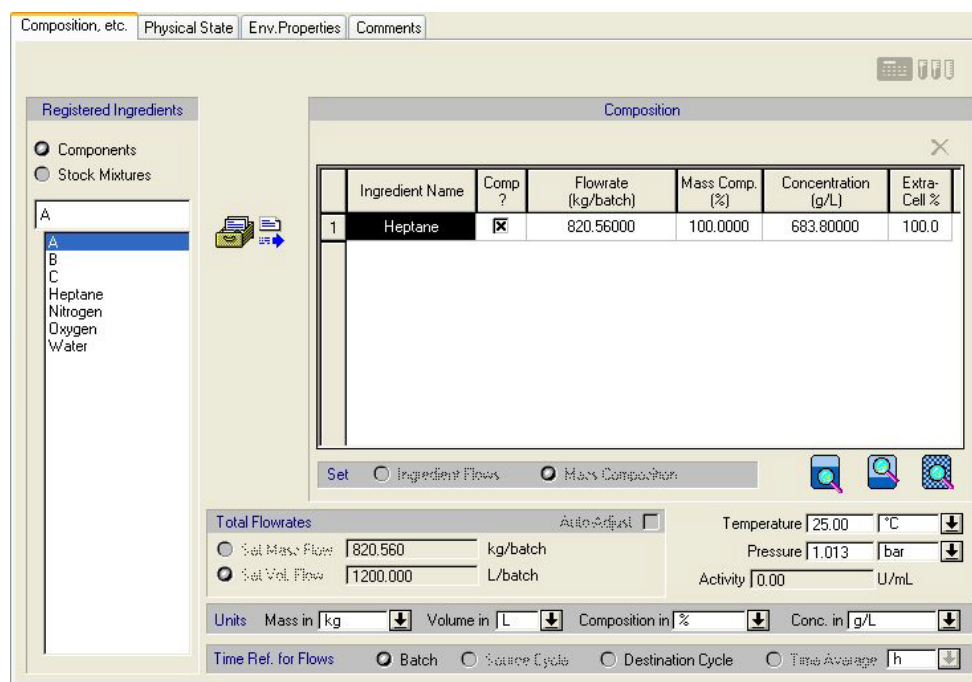

Figure 2.15: The simulation data dialog for the 'Heptane' stream.
To initialize the operating conditions for the 'Charge Solvent' operation, you begin by selecting the charge stream for this operation. Use the 'Charge Using' drop-down list at the top of the tab to select the stream which you renamed 'Heptane' earlier in this section. Then, click on the **View/Edit Stream Composition and/or Amount** (  ) button next to the drop-down list in order to access the simulation data dialog for that stream (see Figure 2.15) and specify its
3. As an alternative to going through the simulation data dialogs of operations to edit stream properties, you can initialize and edit input streams directly from the flowsheet itself. To do this, double-click on a stream (or right-click on a stream and click **Simulation Data** from the context menu of that stream). This will bring up the same dialog box as the one shown in Figure 2.15. Note that only the feed (input) streams to the flowsheet need to be specified. The flowrates and compositions of intermediate and output streams are calculated by the program. However, the user can specify the physical state properties of these streams.